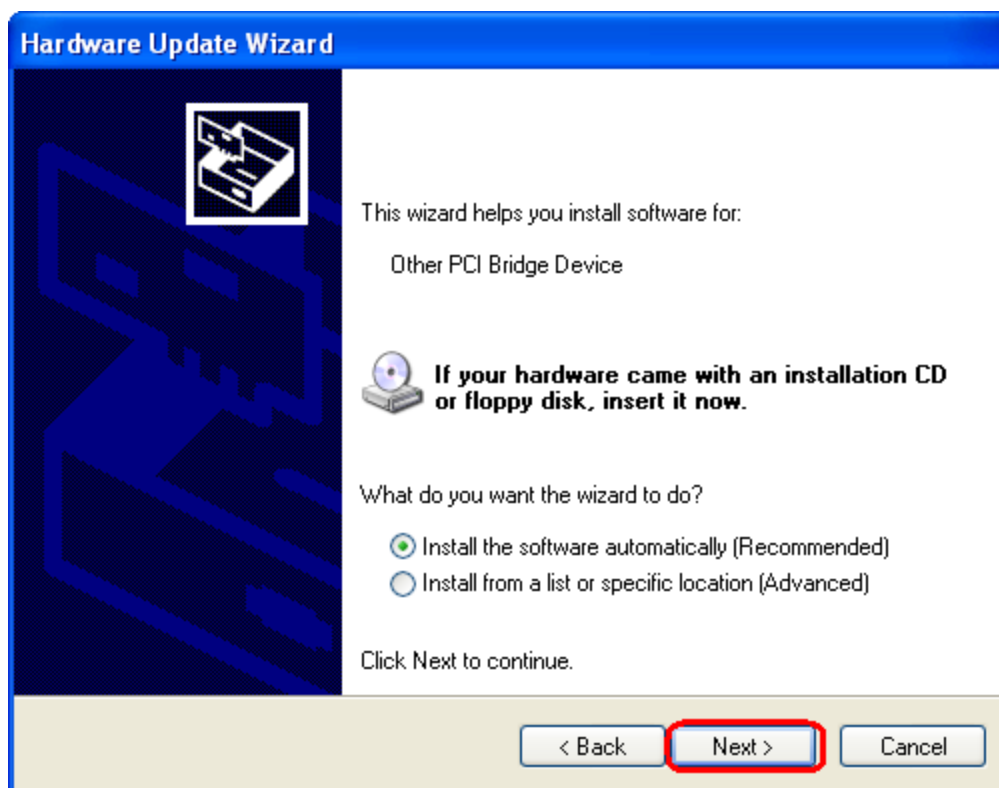

Figure 7-45: Other PCI Bridge Device Controller Driver Installation Start
- Step 8:** The screen in **Figure 7-45** appears.
Step 9: Select the recommended option in **Figure 7-45**.